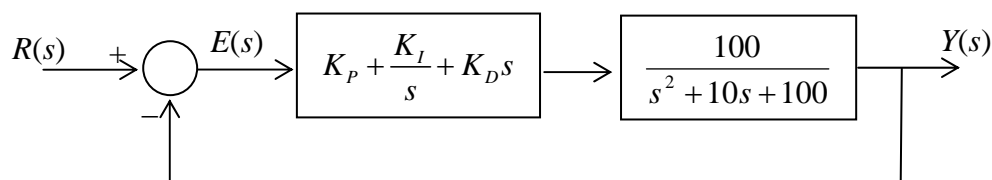

Figure 2
2. A control system with a type-0 process and PID controller is shown in Figure 2. Design the parameters of the PID controller so that the following specifications are satisfied: